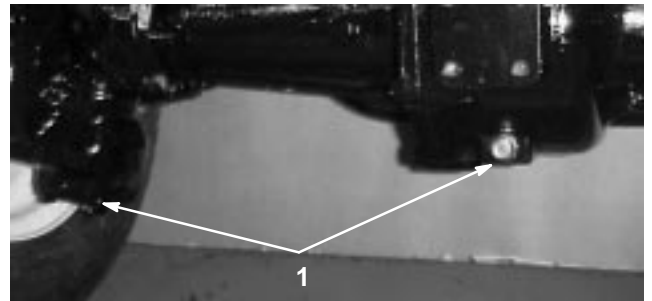

Figure 53
2. Clean the area around the 3 drain plugs, 1 on each end and 1 in the center (Fig. 53).
3. Remove the (3) oil level check plugs and main axle vent cap to ease in draining of the oil.